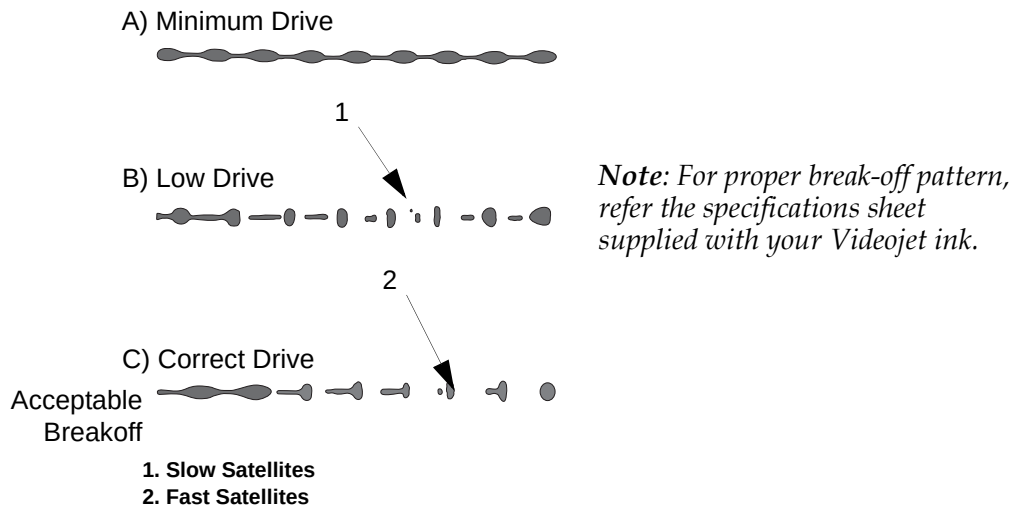

Figure 6-27: Correct Ink Drop-off Pattern
- 7 Use the left and right arrow keys to adjust the nozzle drive value until the drop break-off pattern looks similar to the correct nozzle drive break-off pattern, shown in Figure 6-27 on page 6-28.